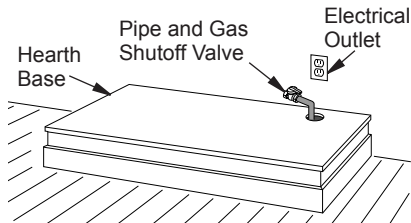

Figure 11 - Placing Hearth Base Against Wall
2. If blower is installed, install a properly grounded, 120 volt three-prong electrical outlet at fireplace location if an outlet is not there. If possible, locate outlet so cabinet mantel will cover it when installed (see Figure 11).
3. Place hearth base against wall at installation location. Cut an access hole in hearth base to run gas line to fireplace (see Figure 11). Make sure to locate access hole so cabinet mantel will cover it when installed. *Note:* You can secure base to floor using wood screws. Countersink screw heads and putty over.